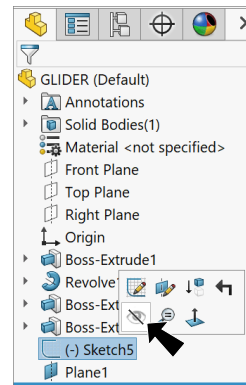

Fig. 39
Step 1. **Hide Sketch5** . To hide, click **Sketch5**  in the graphics area and **Hide**  on the context toolbar, **Fig. 39**.